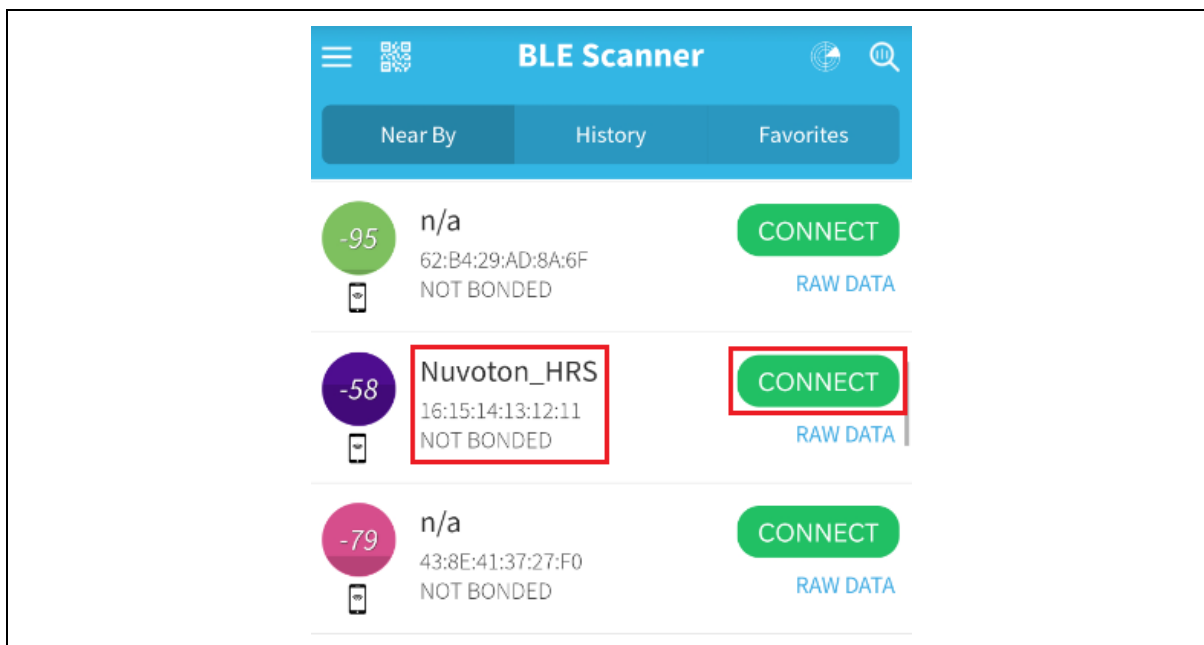

Figure 4-10 BLE Scanner Main Screen
- BLE Scanner lists the near BLE devices in the main screen. You can find the device "Nuvoton\_HRS", as shown in Figure 4-10.